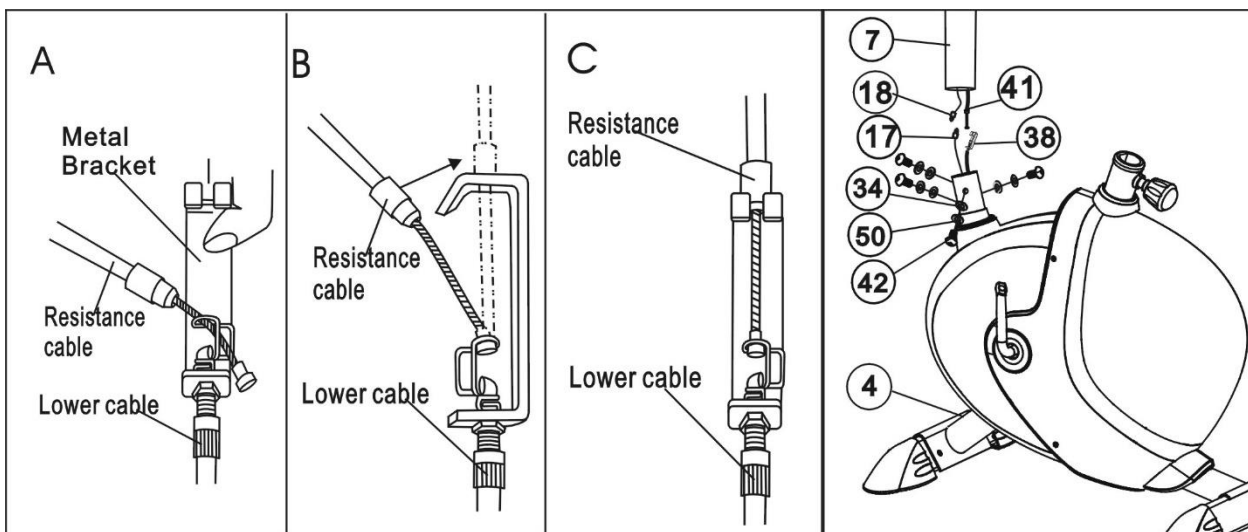

Figure 3
- a. Put the cable end of resistance cable of Tension control (41) into the spring hook of Tension control wire (38) as shown on drawing **A** of figure 3.
- b. Pull the resistance cable of Tension control (41) up and force it into the gap of metal bracket of Tension control wire (38) as shown on drawing **B** of figure 3.
- c. Connect the resistance cable of Tension control (41) with the Tension control wire (38) completed as shown on drawing **C** of figure 3.
- d. Insert the Computer wire (17&18) through into the bottom of Handlebar support (7) and pull it out from the top hole of Handlebar support (7).
- e. Insert the Handlebar support (7) to the Main frame (4) and secure it with four M8x16 Bolts (42), Φ8 Spring washer (50) and Arc washers (34). (Refer figure 3)